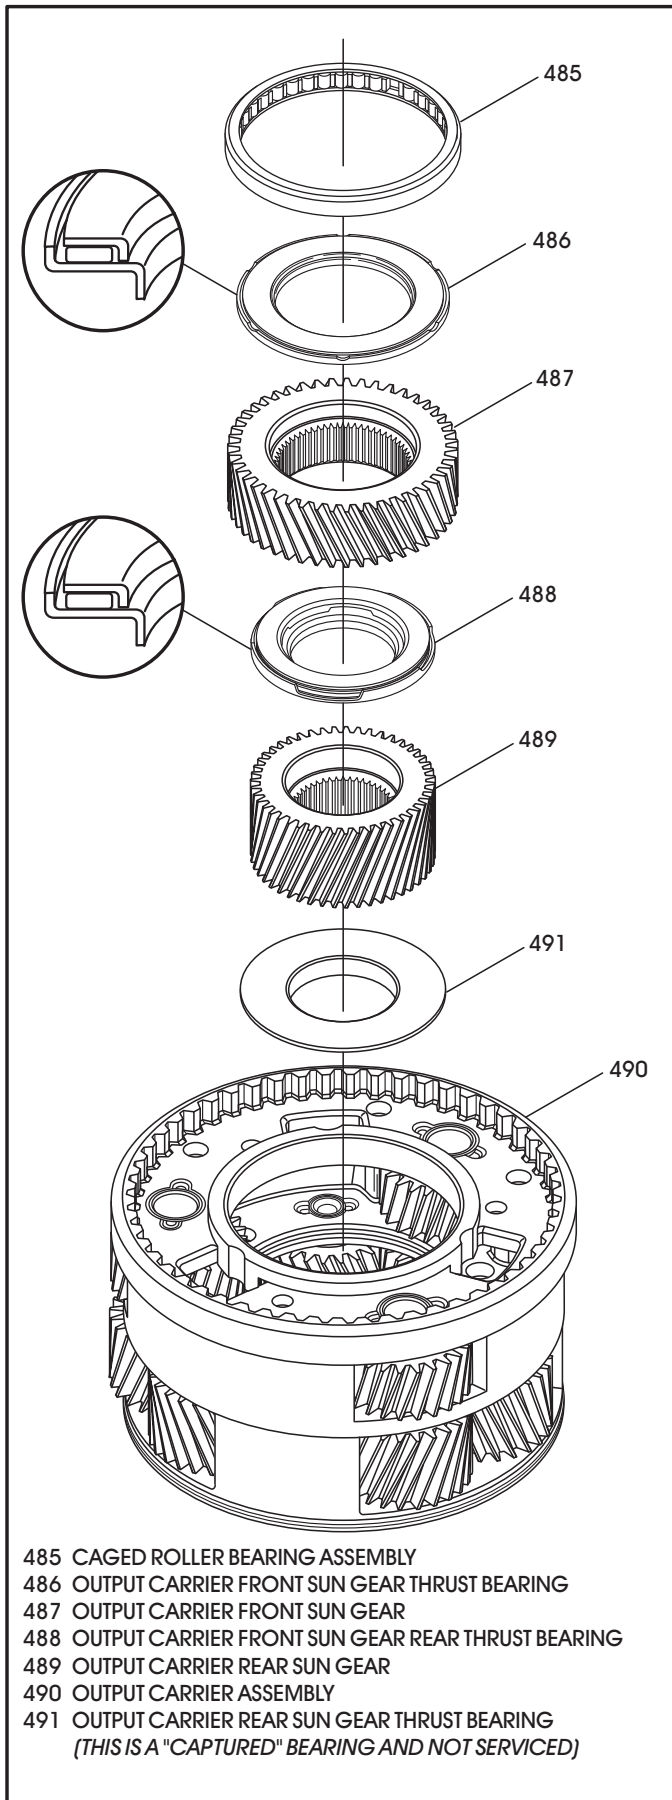

Figure 124
5. Disassemble the rear planetary carrier using Figure 124 as a guide.
7. After bearing removal, remove parts, as shown in Figure 124.